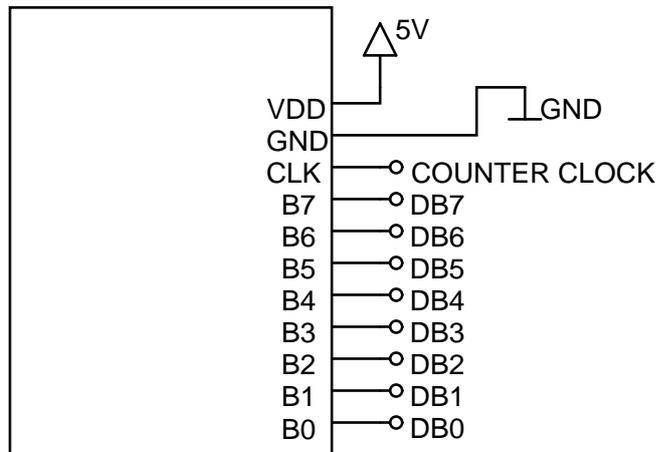

Figure 1: Pin assignments for the printed circuit board that contains the counter and memory.
Figure 1 shows the pin assignments for the printed circuit board. The pins for the eight memory output data bits as well as the clock, power and ground pins are on the right hand side. You should connect the power pin to the 5-V power supply on the protoboard, and the ground pin to ground on the protoboard.
- (4-5) Connect the eight data-bit inputs of the digital-to-analog converter to their corresponding data-bit outputs from the memory; refer to Figure 1 for the memory pin assignments. With the oscilloscope, observe the converter output  $v_{\text{DAC}}$ . You should see an audio signal reconstructed in a piecewise constant manner. Adjust the offset voltage  $v_{\text{OFF}}$  so that the audio signal is centered around 0 V.